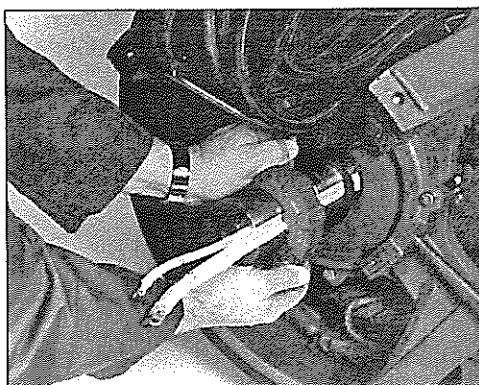

Figure 6-19
3. Slide the PMG rotor off of the shaft (figure 6-19).